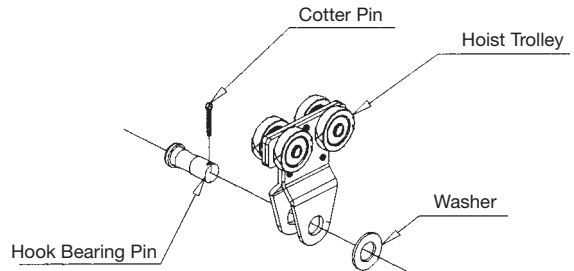

FIGURE 18
3. 250-pound to 2,000-pound capacity trolleys are single unit assemblies with four wheels (see *Figure 18*). 4,000-pound capacity trolleys are made up of two 2,000-pound capacity
Hoist is to suspend from hook bearing pin only (Figure 18 & 19) and not from any other part of the trolley.